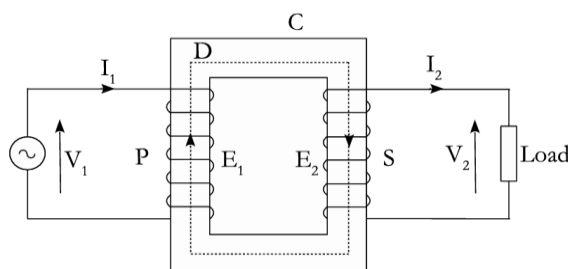

Figure 1.24: Working Principle of a transformer
- This alternating current produces an alternating flux in the core, the mean path of flux is shown in dotted line D as indicated in Figure 1.24.